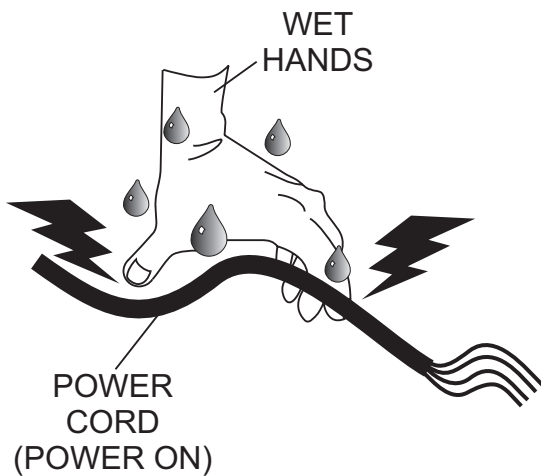

Figure 18. Power Cord (Wet Hands)
4. **NEVER!** grab or touch a live power cord (Figure 18) with wet hands, the possibility exists of **electrical shock, electrocution** and even **death**.